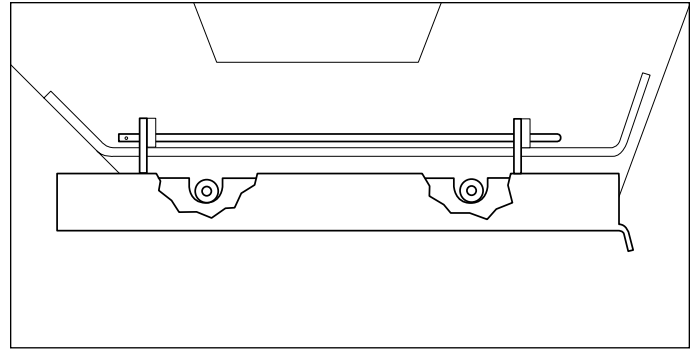

Figure 7. Spacer Location
2. While holding the mount plate vertical and against the chute mount tabs, place the spacers on the mower deck in the recesses of the mount plate. Make sure they are at the bottom of the recess (see Figure 7). Mark their location with a paint pen or prick punch.